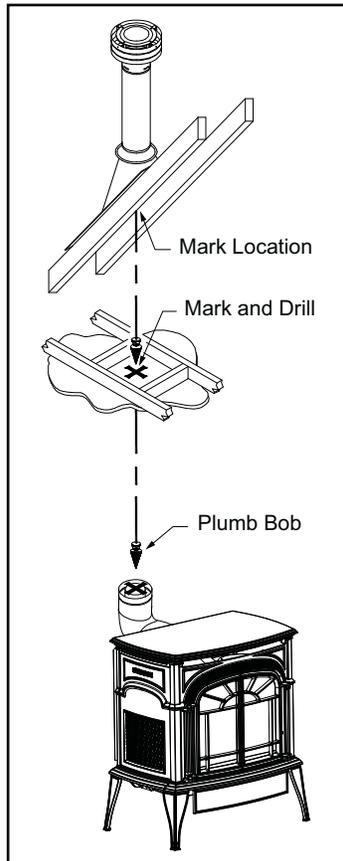

Figure 3.32
**Step 2** - Set the gas appliance in the desired location. Drop a plumb bob down from the ceiling to the position of the appliance flue exit, and mark the location where the vent will penetrate the ceiling. Drill a small hole at this point. Next, drop a plumb bob from the roof to the hole previously drilled in the ceiling, and mark the spot where the vent will penetrate the roof, Figure 3.32. Determine if ceiling joists, roof rafters, framing or other materials will obstruct the venting system. You may wish to relocate the appliance or to offset, to avoid cutting load-bearing members.